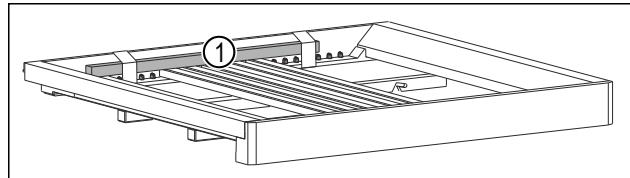

Fig. 5 *
- Remove the wooden stick Fig. 5 (1).*